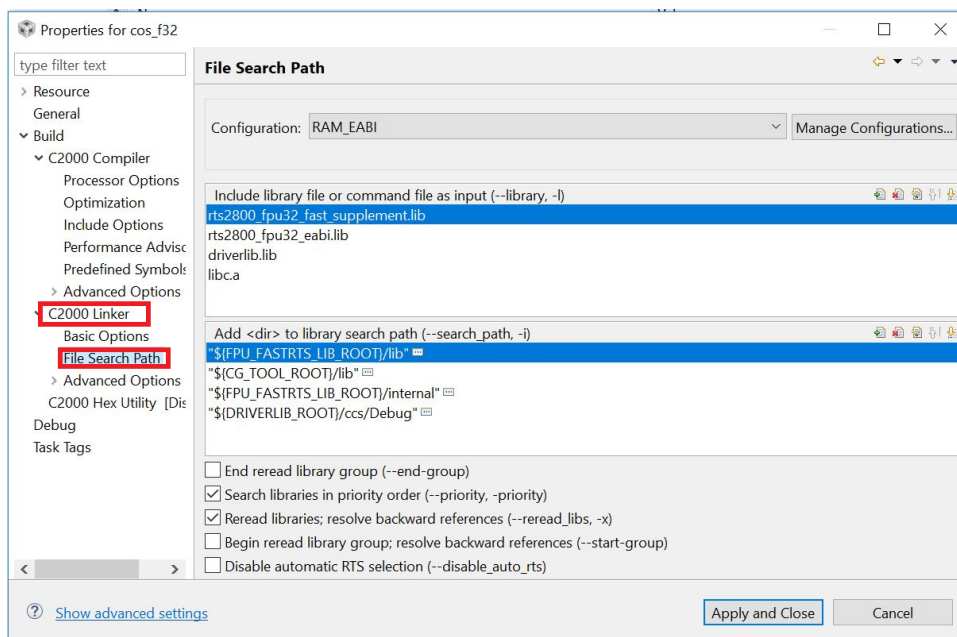
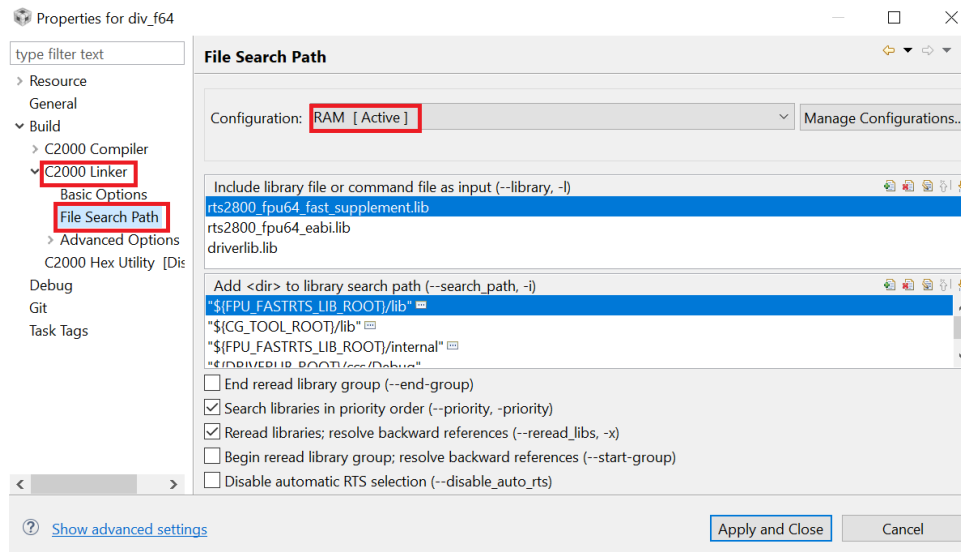
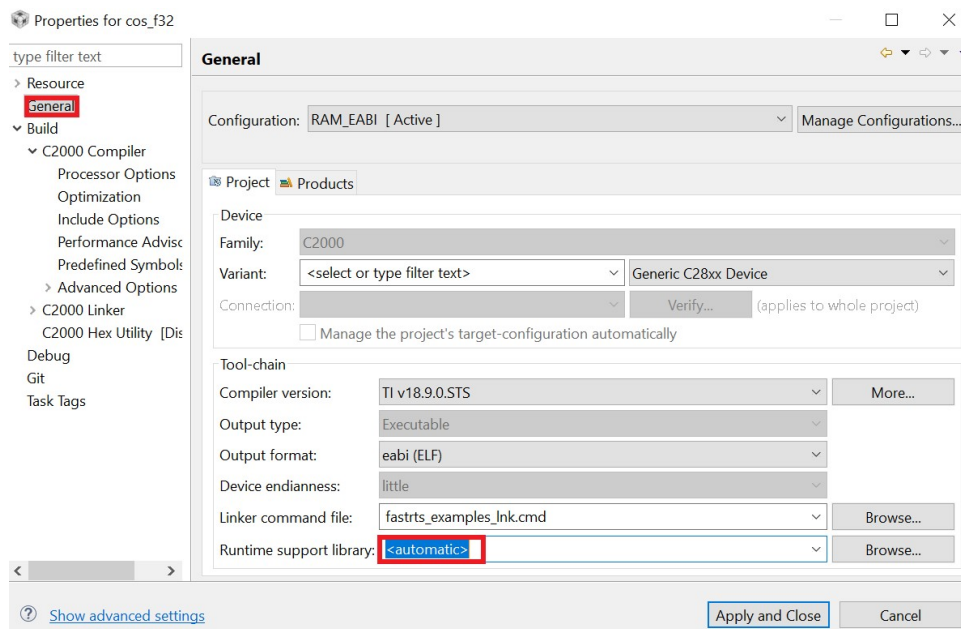

Figure 4.8: Adding the library and location to the file search path
Figure 4.9: Adding the library and location to the file search path
Figure 4.10: Selecting the Runtime Support Library
4. Add the name of the library and its location to the **File Search Path** as shown in Figure 4.8 and Figure 4.9. For the single precision DSP library add **rts2800_fpu32_fast_supplement.lib**, and **rts2800_fpu64_fast_supplement.lib** for the double precision library.
- In the project properties clear the *Runtime Support Library* option, as shown in Figure 4.10, or set it to auto. If you wish to include one of the other run time support libraries in your project, add it from the *File Search Path* option, as shown in Figure 4.8 and Figure 4.9, and place the fastRTS library above the other RTS library and select the **--priority** check box to ensure the compiler pulls the math routines from the fastRTS but the support routines (like string operations) from the other RTS library.